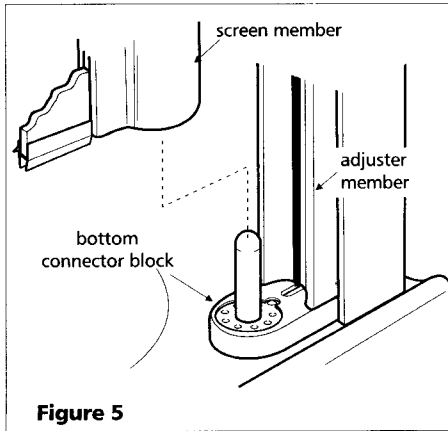
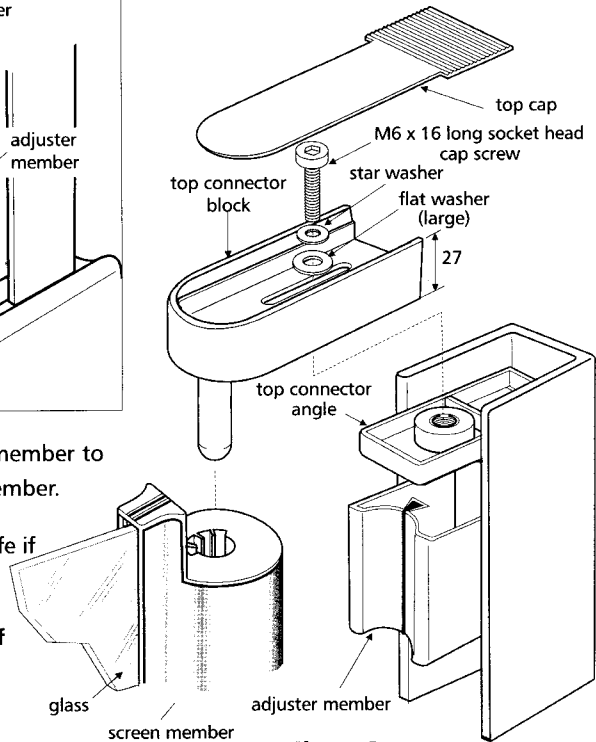

Figure 5
Figure 6
4. Slide the adjuster member over the bottom connector block and into the compensating profile (Fig. 5).
6. Position the screen member onto the bottom connector block (Fig. 5). Ensure the edge of the glass is plumb and secure at the top using the top connector block, M6 x 16 long socket head cap screw and washers (Fig. 6).
8. Fit top cap (shorten using knife if necessary) (Fig. 6).